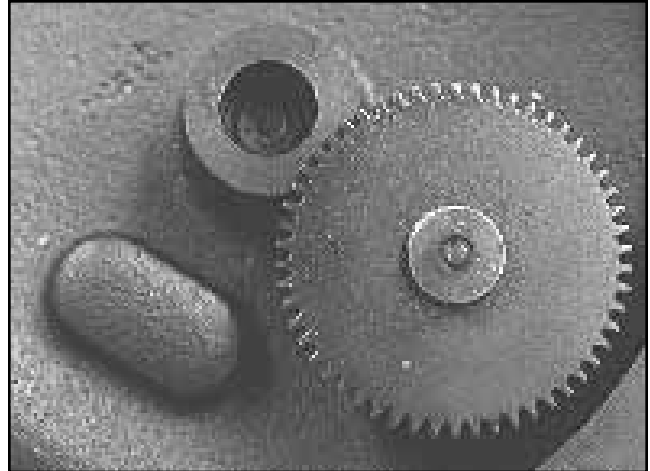

Figure 18
- When replacing cover, position adjusting screw so that bottom of screw is flush with bottom of shaft bearing hub, Figure 18. If adjusting screw is allowed to protrude too far into the cover bearing hub, damage to the cover could result when cover is secured to the housing.